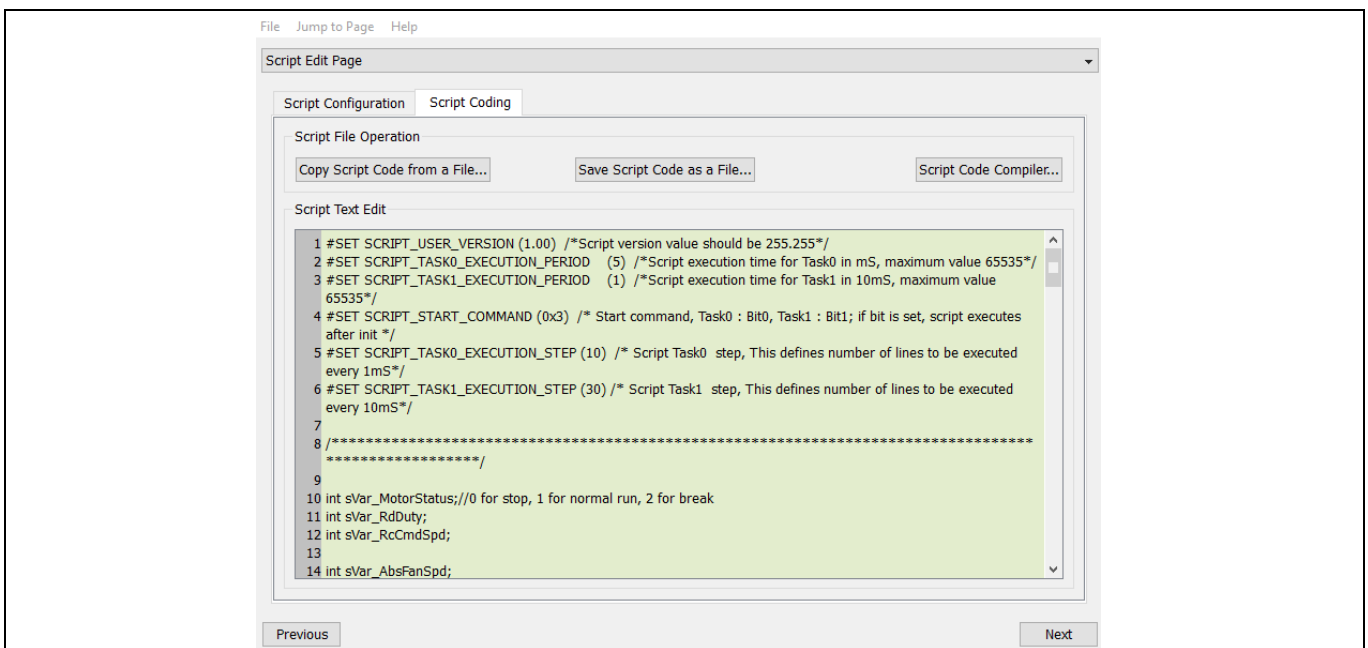

Figure 11 Script edit page
- If the open-loop diagnostic and closed-loop are tuned up, enable the script function in the “Options Page” of MCEWizard, and copy the default script code for remote infrared control in the Code Listing 1 to “Script Edit Page >Script Coding tap” in the MCEWizard as shown in 0Figure 11. Then generate the execution file of script code for remote infrared control tuning by clicking “Script Code Compiler” in “Script Edit Page >Script Coding tap” or go to the “Verify & Save Page” and click on “Calculate Parameters.” For more information regarding script, please refer to the MCE reference manual^[6].